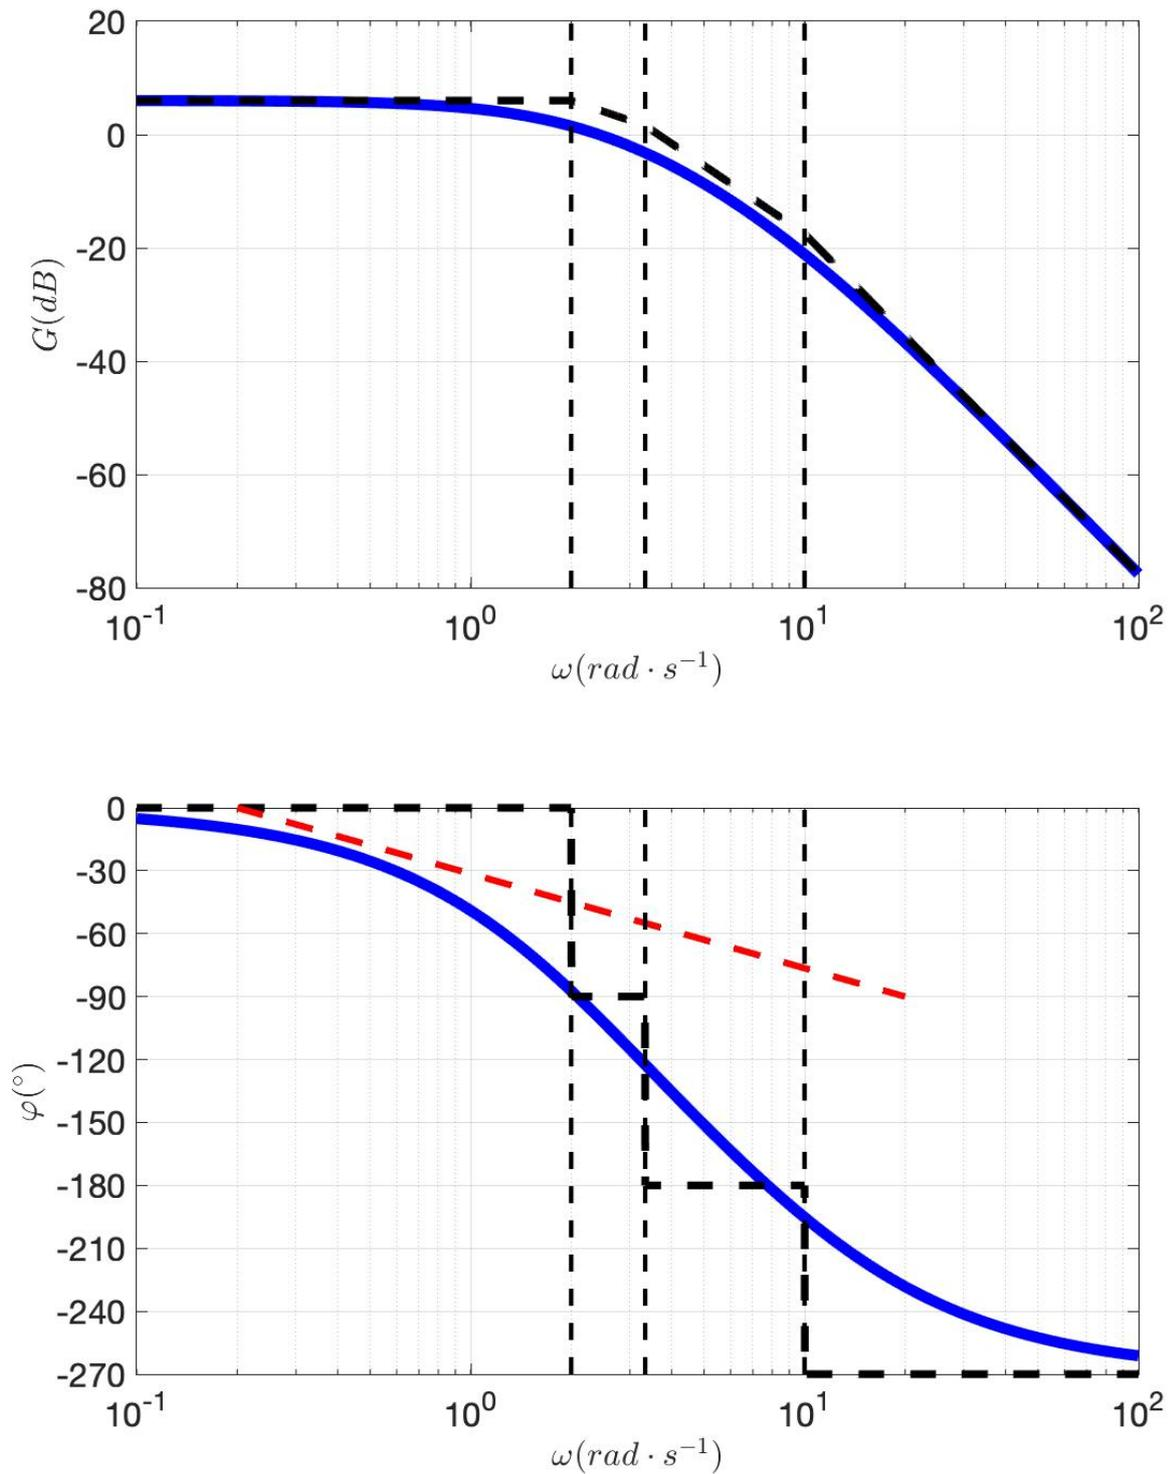

FIGURE 15 – Exemple 3
3. $FTBO(p) = \frac{4}{(1+0,1p+p^2)(1+2p)}$ (figure 15).